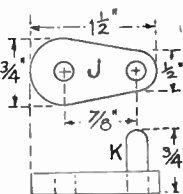

Fig. 4—The parts of the crank
A detailed outline of the crank (J) is given in Fig. 4. Cut this out carefully, keeping the two holes a bare ¼in. diameter so that the spindle and the handle (K) may fit tightly. The spindle must be 1½ins. long and the handle (K) ½in. long.